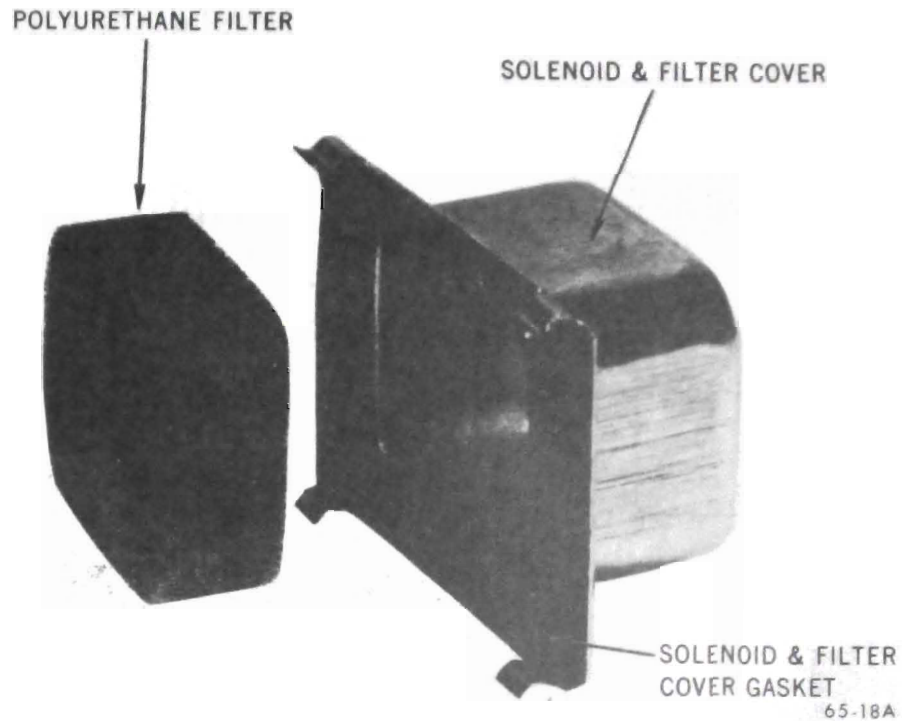

Figure 65-9--Replacing Cruise Master Air Filter
- (a) Place polyurethane filter in bottom of solenoid and filter cover. Note rectangular shape of filter and cover. See Figure 65-9.